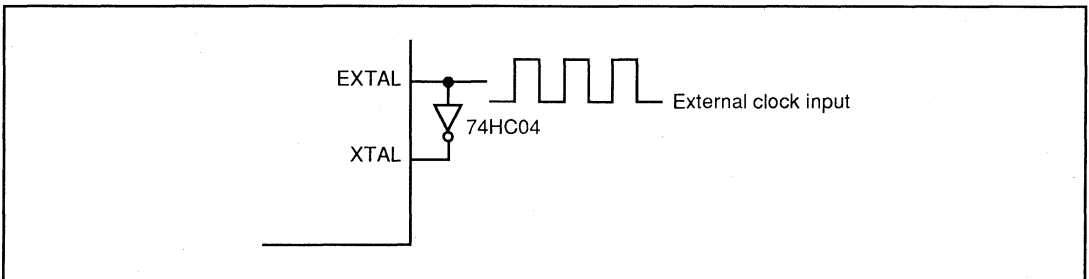

Figure 16-5. External Clock Input (Example)
(2) Input of External Clock Signal
① **Circuit Configuration:** An external clock signal can be input at the EXTERNAL pin. The reverse-phase clock signal should be input at the XTAL pin, as shown in the example in Figure 16-5.